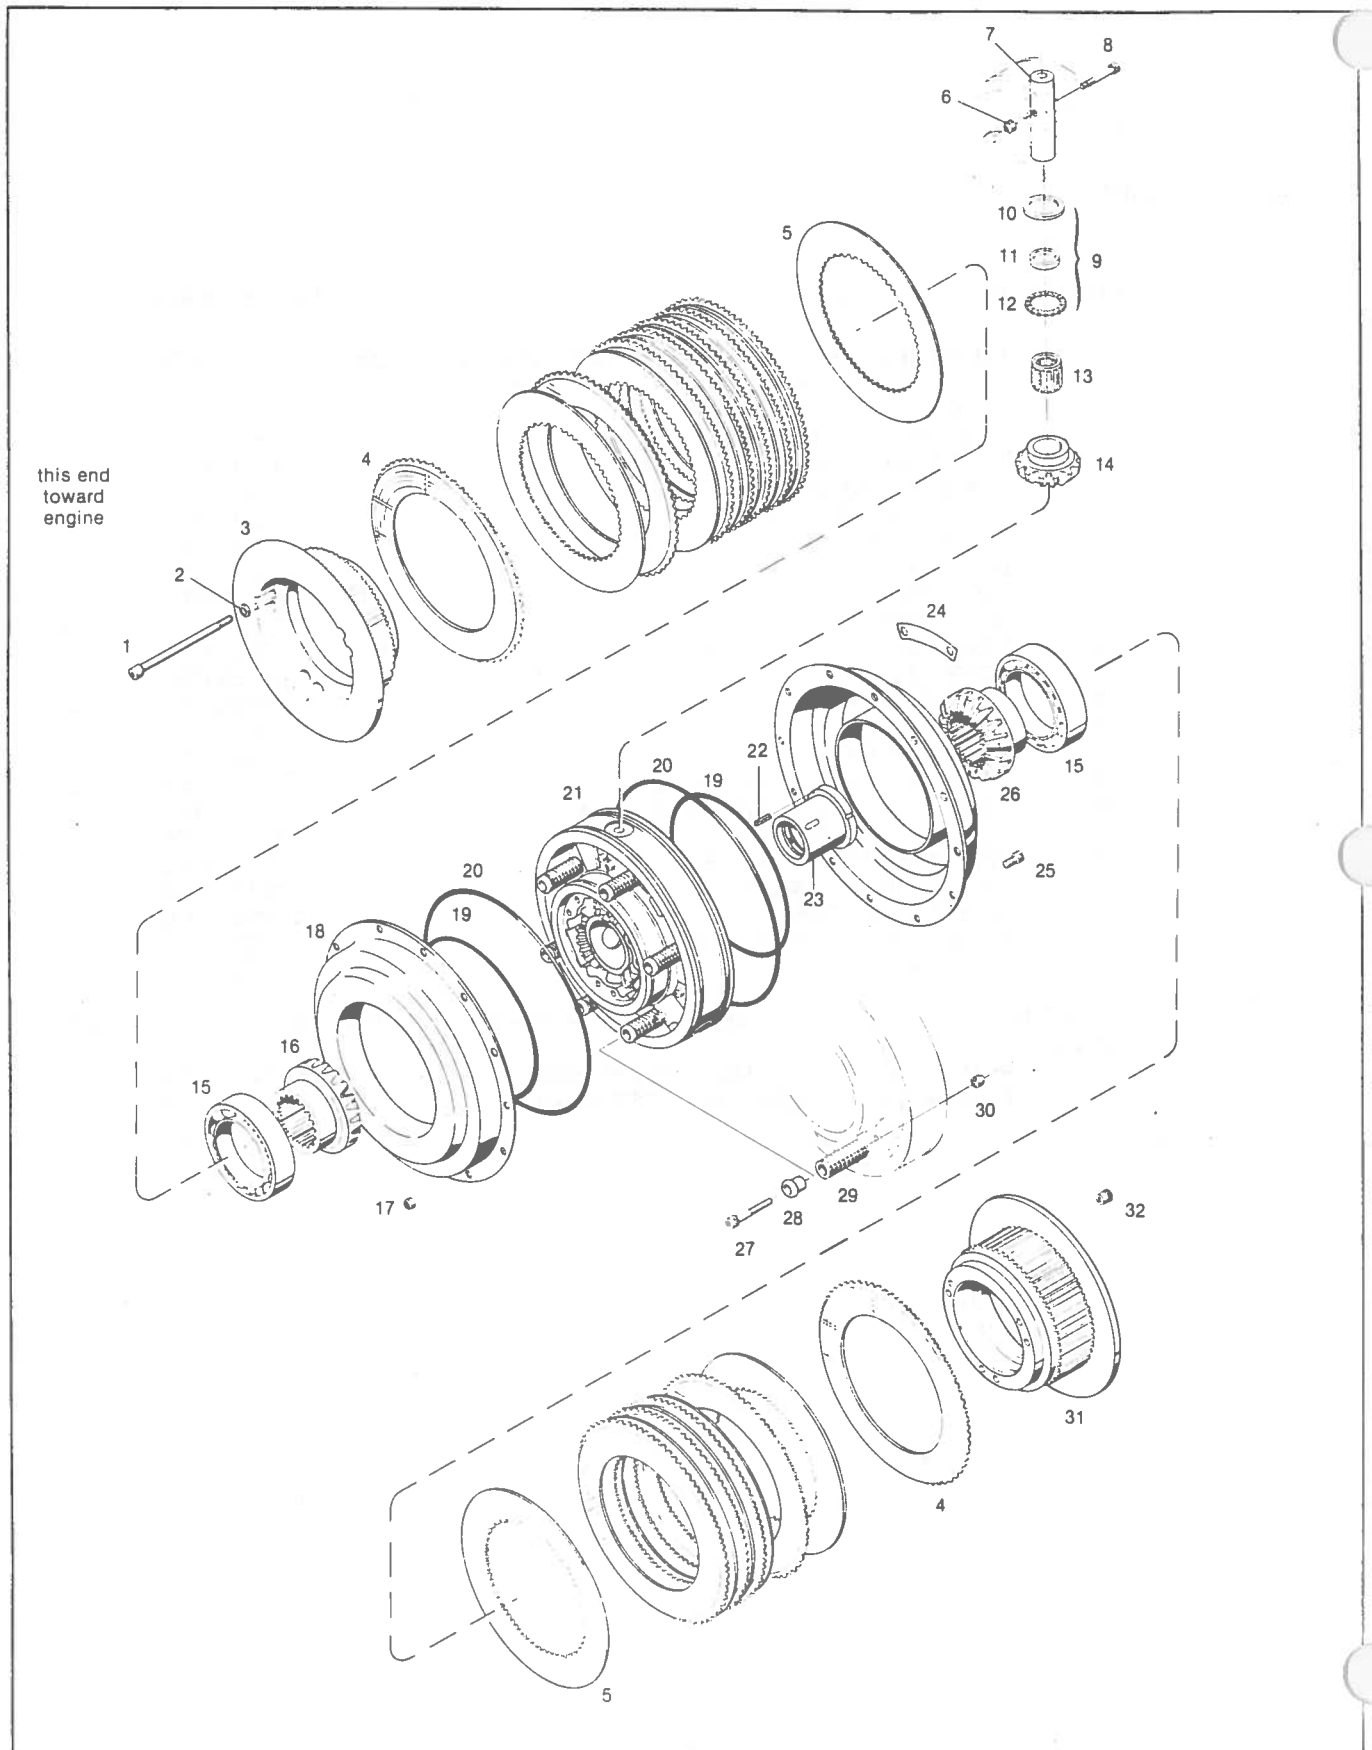

Figure 42. Clutch No. 1-00100-1000
8. Figure number, item no.	8. Fig. 42, item 4